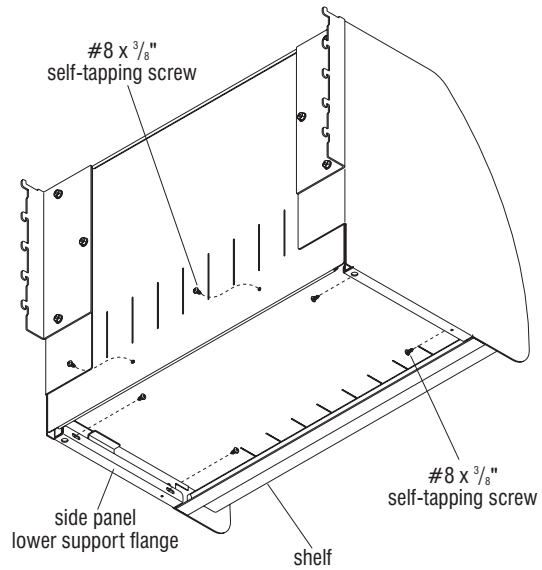

Figure 3
3. Press the shelf down and adjust until the four screw holes in the shelf's side flanges are visible through the slots in the side panel support flanges. From under the shelf, install four #8 x $\frac{3}{8}$ " self-tapping screws through the slots in the side panel support flanges. Do not tighten completely. At the lower rear of the shelf, install two #8 x $\frac{3}{8}$ " self-tapping screws through the back and into the shelf. Tighten all fasteners at this time (Figure 3).